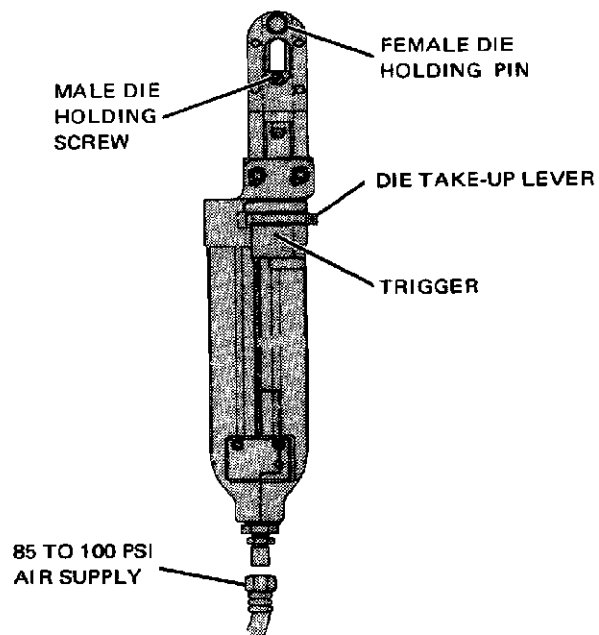

Figure 3
- (a) To open tool handles, close handles until CERTI-CRIMP\* ratchet releases. See Figure 3. Note that once ratchet is
Pneumatic tool No. 69270-1, Model 2 is equipped with a pneumatic die take-up lever. See Figure 3. This take-up lever is used to hold the ferrule in a proper position prior to crimping.